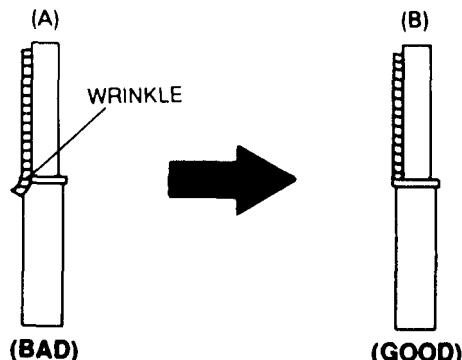

Fig. 6 Tape Guide Check
2. Confirm that there is no curl or wrinkle at the lower flange of the tape guide, as shown in Fig. 6 (B).
3. If a curl or wrinkle of the tape has occurred, slightly turn the screw (C) tilt adjust on the A/C head ass'y clockwise until it disappears, as shown in Fig. 6 (B)